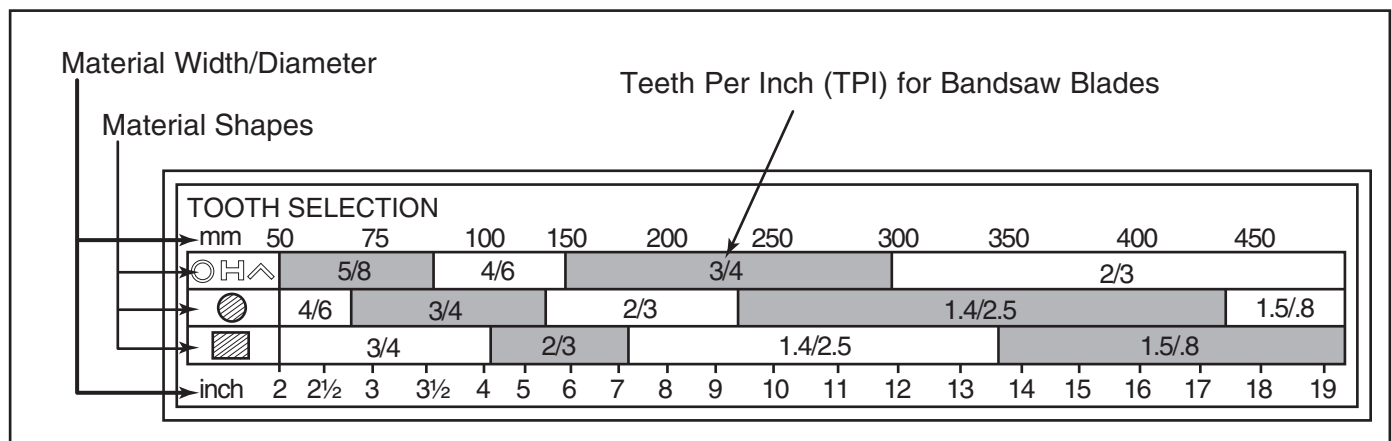

Figure 13. General guidelines for blade selection and speed chart.
2. Refer to "Material Width/Diameter" row of blade selection chart in **Figure 13**, and read across to find workpiece thickness you need to cut.